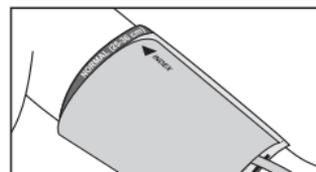

Fig. 10
5. On the fixed cuff the sign "index" should point to the area "normal (25-36 cm)". It means that the cuff is chosen correctly and fits the size of your upper arm. If the sign points to the area marked «» or to the left, the cuff is too small and the readings will be higher. If the sign points to the area marked «» or to the right, the cuff is too large and the readings will be lower (Fig. 10).